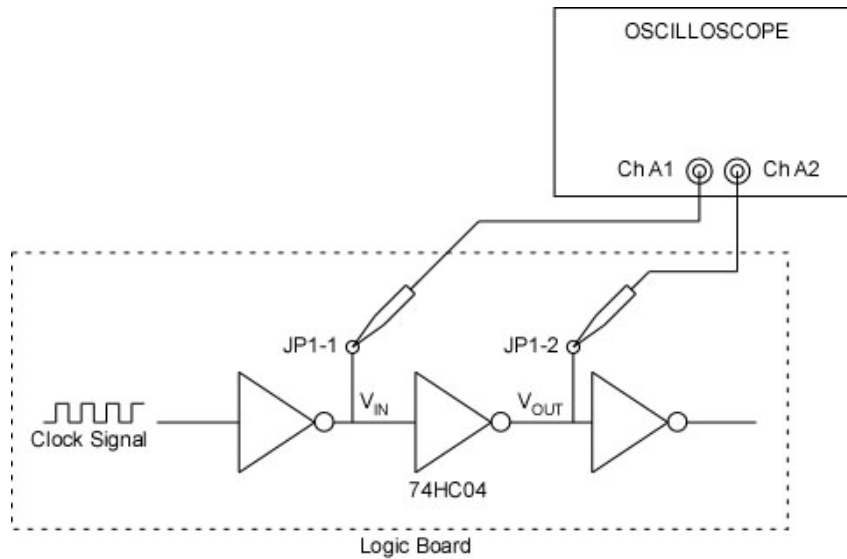

Figure 1-6 Setup for Finding Propagation Delay
- 2) Connect the scope probes from channels A1 and A2 to the JP1 pins 1 and 2, respectively, as shown in Figure 1-6 below.